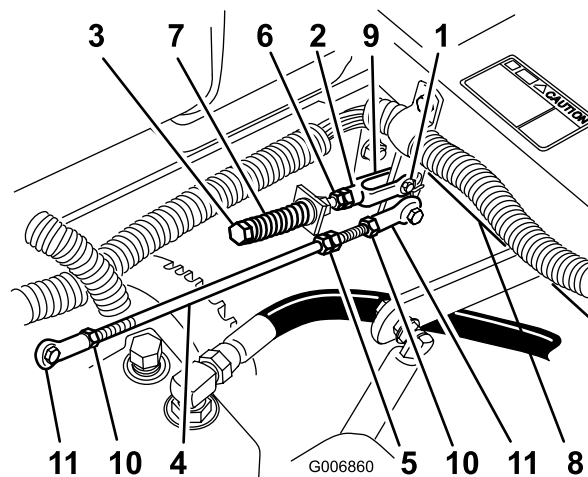

Figure 61
8. If adjustment is needed, loosen the nut and jam nut against the yoke (Figure 61).
9. Apply slight rearward pressure on the motion control lever, turn the head of the adjustment bolt in the appropriate direction until the control lever is centered in the neutral lock position (Figure 61).
10. Tighten the nut and jam nut (Figure 61).